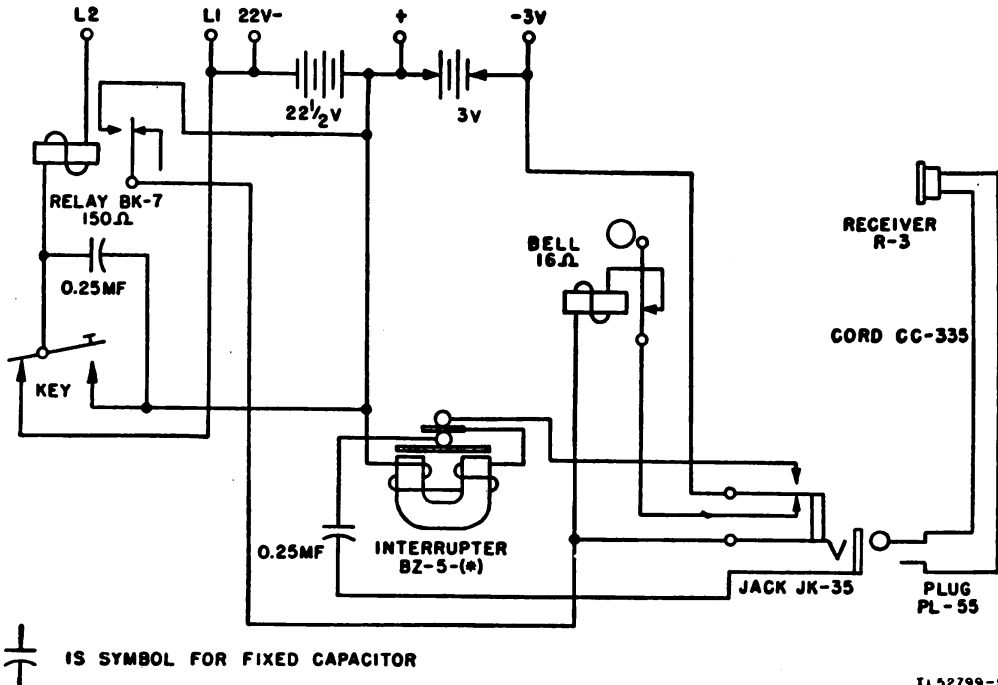

Figure 34. Circuit diagram, Telegraph Set TG-5.
- (1) Trouble-shooting chart. (See par. 49.)
- (2) Complete schematic diagrams. (See figs. 34 and 35.)
- (3) Resistance data for all terminals. (See par. 48.)
those given in the chart, check the wiring of that portion of the circuit against the circuit diagrams (figs. 34 and 35) and the wiring diagram in the cover of the telegraph set.